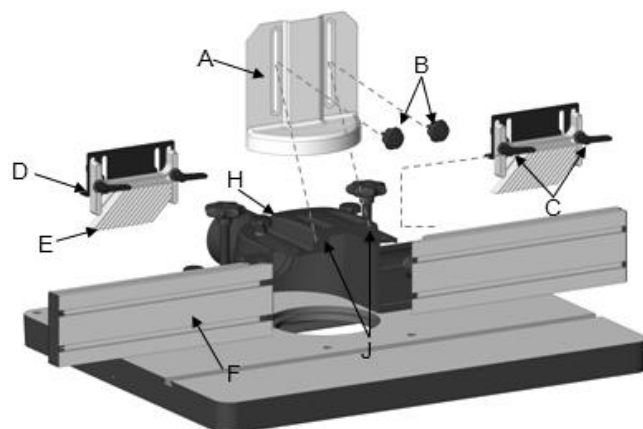

Fig. 3
Mount the cutter guard (A) Fig. 3 to the safety guard holder (H). Insert two lock knobs (B) through the cutter guard slots and into the threaded mounting holes (J) on the safety guard holder (H).
Loosen lock handles (C) Fig. 3 and slide the rail of the featherboard so the squared edges of the carriage bolt (D) engages in the groove (F) along the top of the fence.